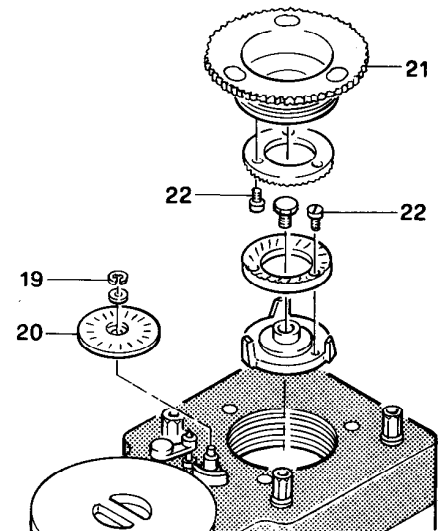

Fig.10
- Remove clamping ring 19 Fig.10 and ferrule 20 (except for MD40 model);
- Turn upper grinders support 21 Fig.10 in a counter-clockwise direction until the whole part is out;
- Unscrew screws 22 Fig.10 and disassemble the grinders from the grinders support;